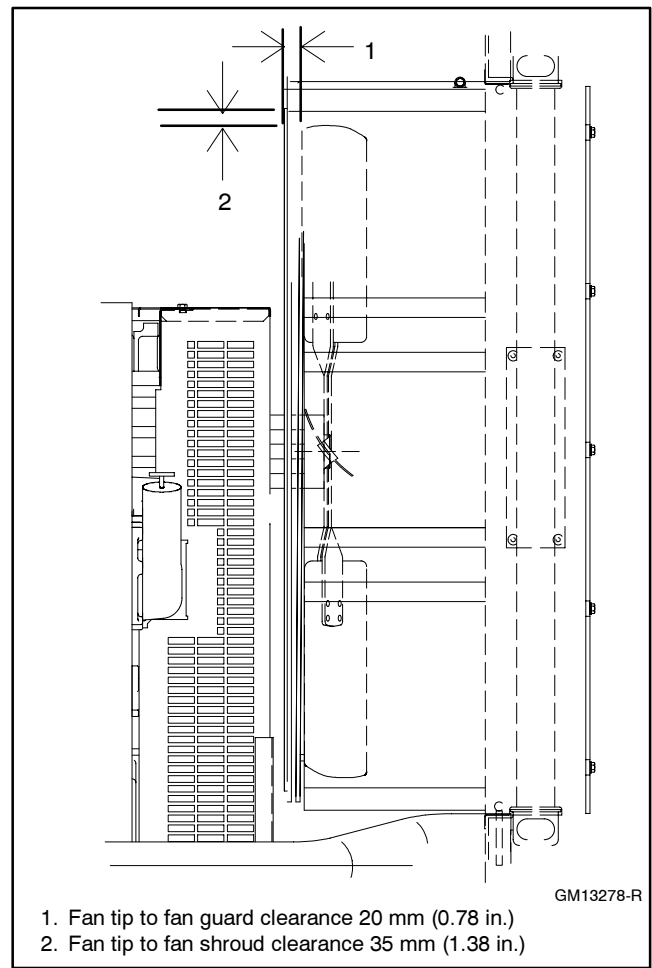

Figure 2 Fan Clearances
- 3.3 Verify that the fan is centered in the shroud opening and that the fan will not contact the shroud. Fan tip to fan shroud clearance must be at least 20 mm (0.78 in.) for each fan blade. Adjust the fan shroud as necessary. See Figure 2.